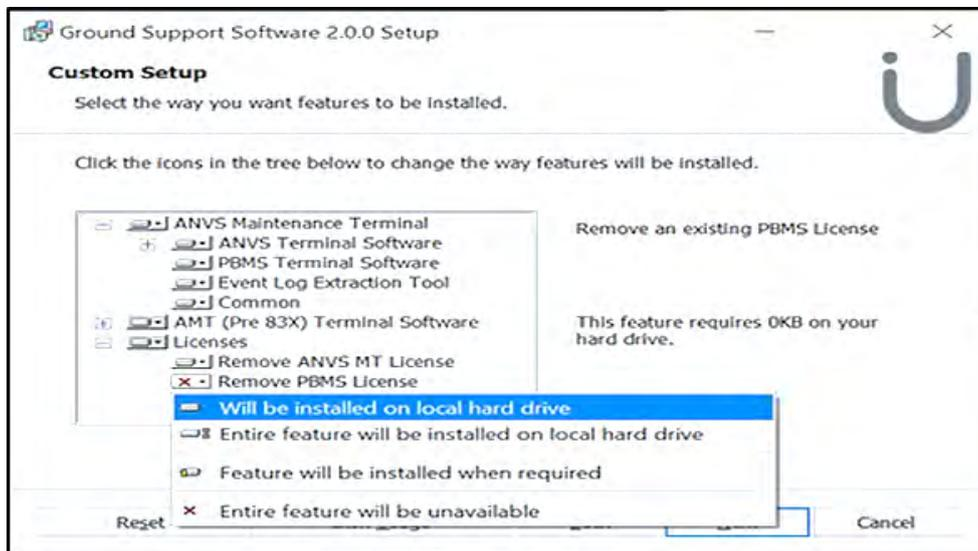

Figure 2-15 Remove Licence
- (8) To remove the Licence on the PBMS software click on the drop down menu (Icon X) next to Remove PBMS Licence and select will be installed on local hard drive. (Ref Fig 2-15)